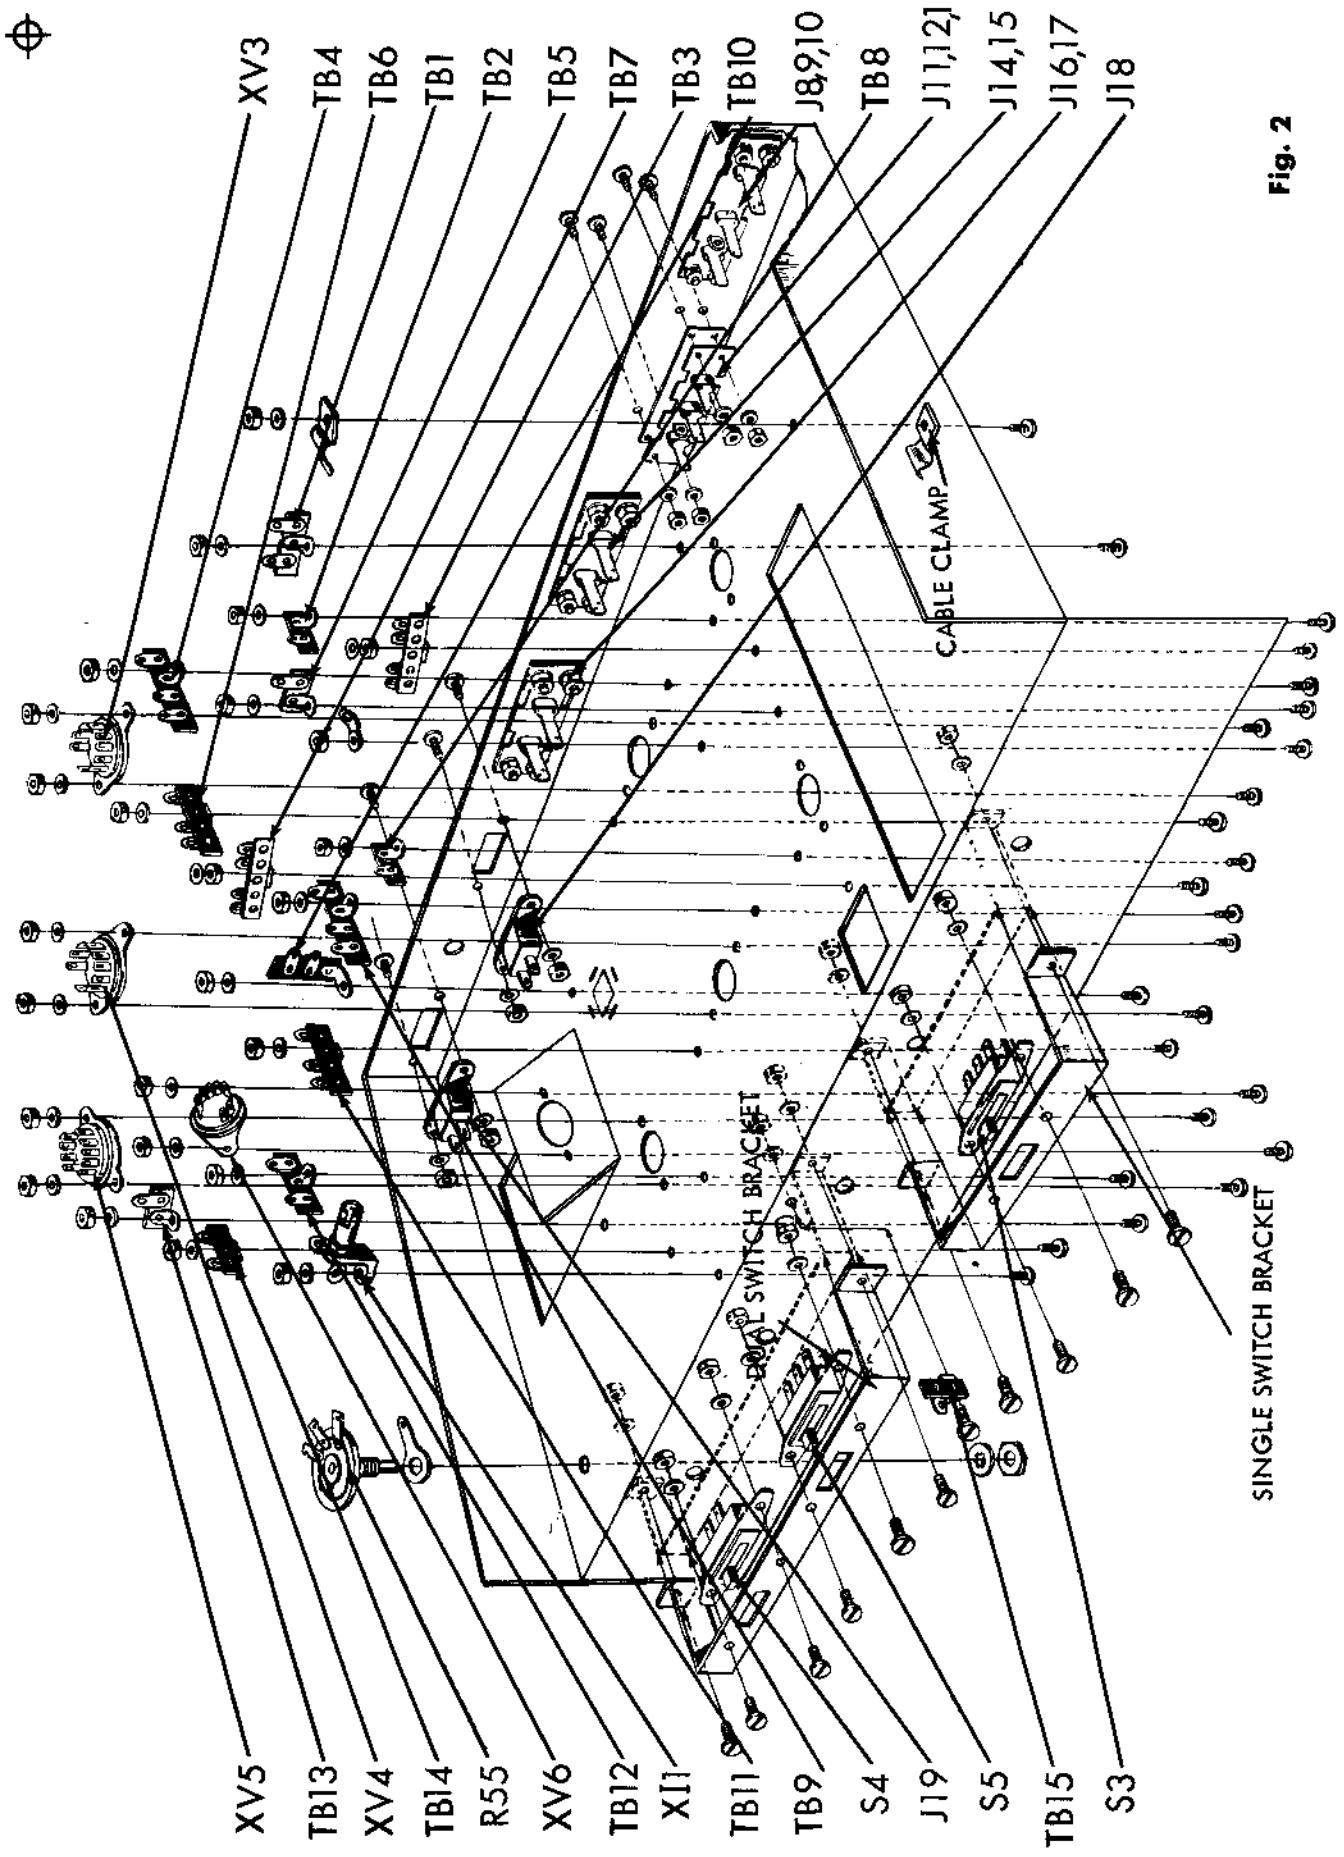

Fig. 2
1. ( ) Fig. 2. Mount the one post left terminal strip, TB15, as shown. Use one #6-32 screw, one #6 lockwasher and one #6 hex nut.
2. ( ) Fig. 2. Note that the mounting holes for the single switch bracket and the dual switch bracket are not at the center of the bracket. The bracket must be mounted so that a larger part of the bracket is below the mounting hole than above it. When mounted properly, the brackets will protrude 1/8" below the bottom of the chassis. Mount both brackets as shown, using two #6-32 screws, two #6 lockwashers and two #6-32 hex nuts on each.
3. ( ) Fig. 2. On the single switch bracket mount the double pole double throw slide switch, S3 as shown. Use two #6-32 screws, two #6 lockwashers and two #6-32 hex nuts.
4. ( ) Fig. 2. On the double switch bracket mount the double pole double throw slide switch, S5, as shown. Use two #6-32 screws, two #6 lockwashers and two #6-32 hex nuts.
5. ( ) Fig. 2. Mount the single pole single throw slide switch, S4, as shown. Note direction in figure 6. Use two #6-32 screws, two #6 lockwashers and two #6-32 hex nuts.
6. ( ) Fig. 2. Mount the hum bucking pot, R55, as shown (see Fig. 5). Use pot grounding lug, a 3/8 lockwasher and a 3/8 hex nut. When tightening grounding lug should be under center terminal to which it will eventually be soldered.
7. ( ) Fig. 2. Mount the two convenience outlets, J18 and J19 as shown. Use two #6-32 screw, two #6 lockwashers and two #6-32 hex nuts on each.
8. ( ) Fig. 2. Mount the triple jack, J11, 12, 13 as shown. Use a bakelite insulator between the jack strip and the chassis. Use four #6-32 screws, four #6 lockwashers and four #6-32 hex nuts. (See Fig. 5)
9. ( ) Fig. 2. In a similar manner, mount the triple jack, J8, 9, 10, the dual jack J14, 15 and the dual jack, J16, 17. Use a bakelite insulator between each jack strip and the chassis. Use four #6-32 screws, four #6 lockwashers and four #6-32 hex nuts on each. (See Fig. 5)
10. ( ) Fig. 2. Between the two convenience outlets, push a rubber grommet into the 3/8" hole.
11. ( ) Fig. 2. Mount the pilot light socket, X11, as shown (see figure 5). Use one #6-32 screw, one #6 lockwasher and one #6-32 hex nut.
12. ( ) Fig. 2. Mount seven pin miniature tube socket, XV6 as shown. (see figure 5). Use two #4-40 screws, two #4 lockwashers and two #4-40 hex nuts.
13. ( ) Fig. 2. Mount nine pin miniature tube sockets, XV3, XV4 and XV5 (without shield support) as shown. (see figure 5) Use two #4-40 screws, two #4 lockwashers and two #4-40 hex nuts on each.
14. ( ) Fig. 2. Near J8, 9, 10, mount one cable clamp below the chassis. Use one #8-32 screw, one #8 lockwasher and one #8-32 hex nut. On the same screw, mount another identical cable clamp above the chassis. Do not tighten the nut as yet.
15. ( ) Fig. 2. Mount two post terminal board, TB1/ one post left terminal board, TB2/ four post terminal board, TB3/ three post two left terminal board, TB4/ one post right terminal board, TB5/ three post two right terminal board, TB6/ four post terminal board, TB7/ one post left terminal board, TB8/ three post two left terminal board, TB9/ two post upright — right terminal board, TB10/ three post two right terminal board, TB11/ two post terminal board, TB12/ one post right terminal board TB13/ and two post terminal board, TB14/ as shown. Use one #6-32 screw, one #6 lockwasher and one #6-32 hex nut on each.
16. ( ) Fig. 2. In the hole next to terminal board, TB3, mount a #6 ground lug. Use one #6-32 screw and one #6-32 hex nut.